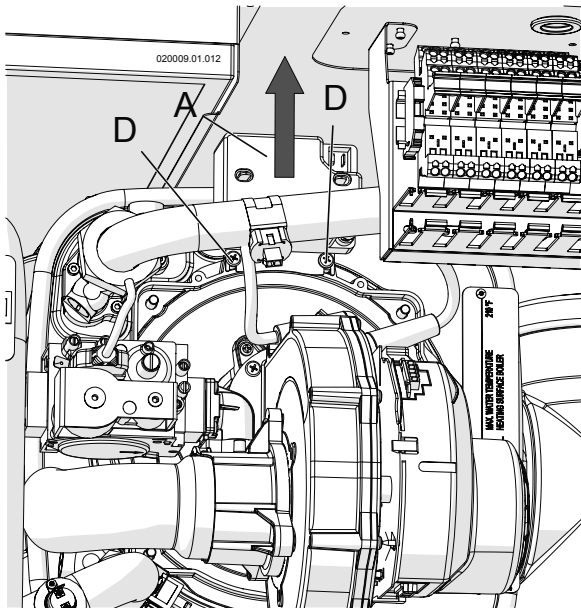

Figure 17-2 - Spark generator disassembly
- 3.- disassemble spark generator "A" in figure 17-2, unscrewing screws "D" in figure 17-2 and disconnecting it from the ignition electrode.